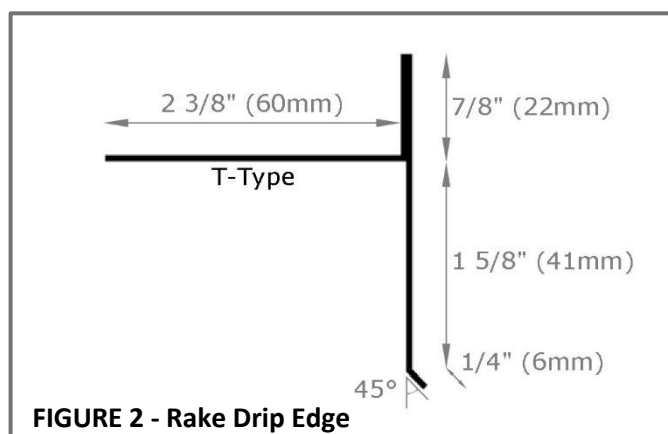

FIGURE 2 - Rake Drip Edge
- RAKES** - F-WAVE requires a **T-Type rake drip edge** at rakes to cover the cut edge of the shingles. Apply drip edge over underlayment at rake edges. Apply a **1/2" (13mm)** bead of approved adhesive to drip edge. Trim shingles **3/16" (5mm)** from T-Type rake drip edge. See **Figure 2**.